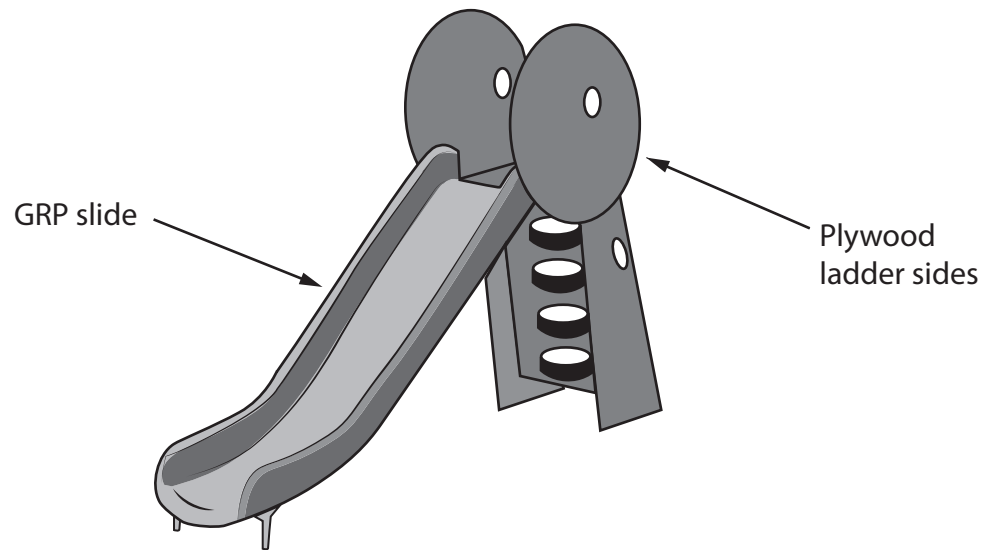

Figure 3
- 3 Figure 3 shows a piece of children's play equipment. The sides of the ladder are made from plywood and the slide is made from glass reinforced plastic (GRP).